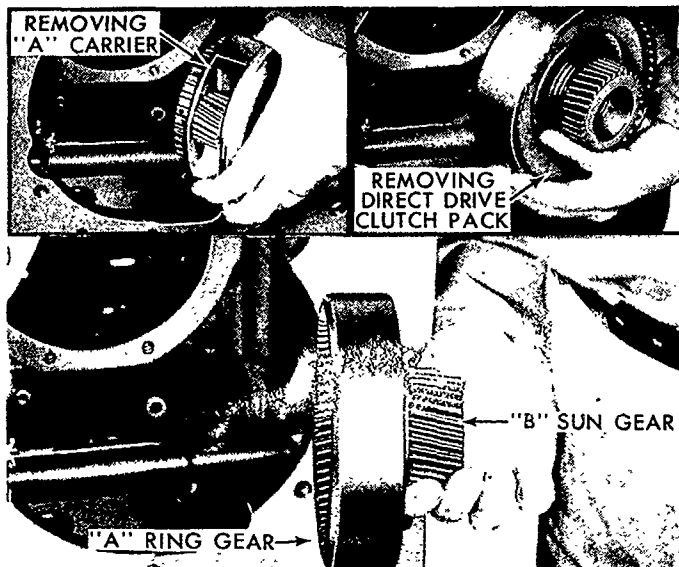

Figure 75
17. Remove the "B" sun gear and "A" ring gear as shown in Figure 75. Remove the "A" carrier and direct drive clutch assembly as shown in the Inserts, Figure 75.